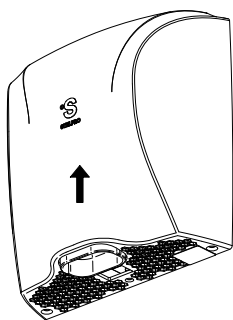

FIG. 5
5. Install the cover on the wall and slide it to the top. (FIG. 5)
- Remove the two screws and detach the upper tunnel. (FIG. 5)